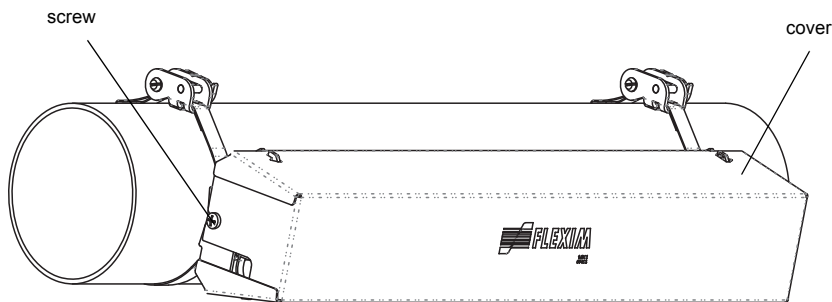

Fig. 7.36: Variofix C with transducer on the pipe
- Put the cover on the rail (see Fig. 7.36).